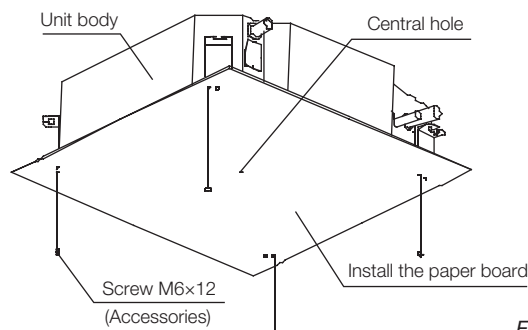

Fig. 4-5
2. After installing the body, please fasten the installation paper board onto the air conditioner with bolts(M6X12) to determine in advance the sizes and positions of the hole opening on ceiling.(refer to Fig. 4-5)